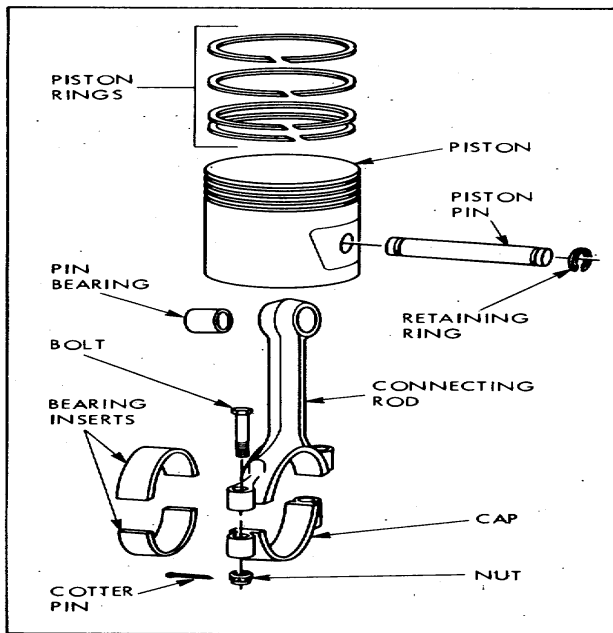

Figure 6-33. Piston and Rod Assembly
(4) Turn crankshaft throws to lowest points, and remove cotter pins and nuts from the connecting rod bolts and remove the lower bearing caps and bearing halves from the connecting rods. Tap rod with a soft hammer, if required, to remove caps.
(5) Push the connecting rods and pistons (Figure 6-33) out of the top of the bore using a suitable piece of wood.